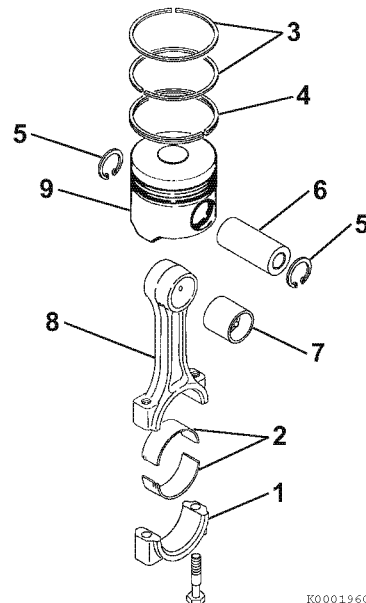

Figure 6-56
5. Remove the bearing inserts (**Figure 6-56, (2)**).
6. Remove the compression rings (**Figure 6-56, (3)**) from the piston using a piston ring expander.
7. Remove the oil ring (**Figure 6-56, (4)**) from the piston using a piston ring expander.
8. Remove the circlips (**Figure 6-56, (5)**) from the wrist pin.
9. Remove the wrist pin (**Figure 6-56, (6)**) and connecting rod (**Figure 6-56, (8)**) from the piston (**Figure 6-56, (9)**).